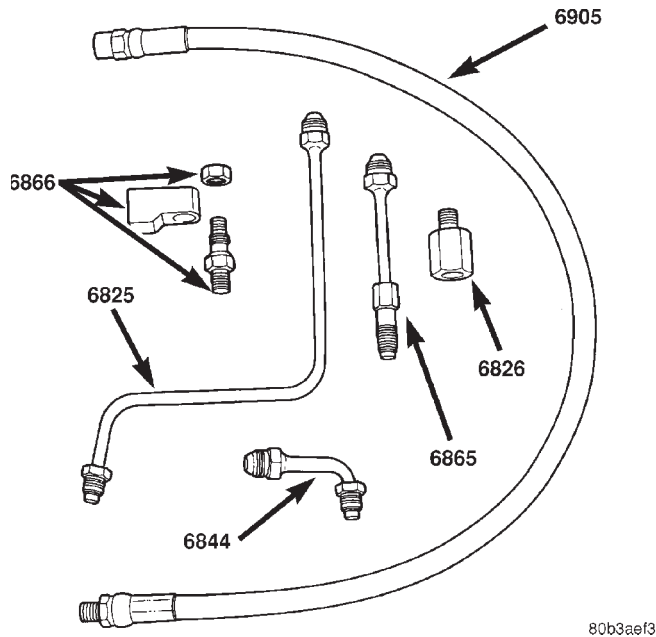

Fig. 4 Power Steering Analyzer Adapters 6893
(2) Install Adapter Fitting, Special Tool 6844, on Pressure Hose, Special Tool 6713. Install Adapter Fitting, Special Tool 6826, on Pressure Hose, Special Tool 6959. Both Special Tool 6844 and 6826 can be found in Adapter Set, Special Tool 6893 (Fig. 4).